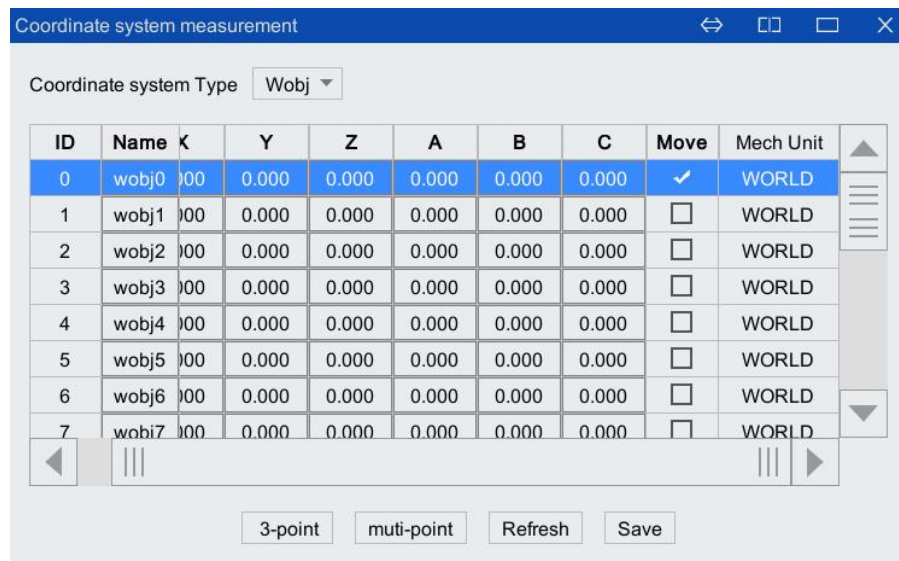

Figure 5-72 "Move Workobject Coordinate System" interface
Step1. If the coordinate system of the moving workobject to be calibrated is wobj1, check the <Move> button in the row where wobj1 is located, and  $\checkmark$  is displayed after checking, as shown in Figure 5-72. Click the mechanical unit box corresponding to the row of wobj1, and a drop-down list will pop up, as shown in Figure 5-72. Optional WORLD or R1. When WORLD is selected, it means that the workobject coordinate system is calibrated relative to the world coordinate system. When R1 is selected, it means to calibrate the workobject coordinate system relative to the base coordinate system of the robot.
Step5. After all calibrations are successful, click the <Calculate> button at the bottom of Figure 5-72 to calculate the error. If it exceeds the error range, the "Calibration failed, please re-measure!" prompt box as shown in Figure 5-76 will pop up. Then you need to re-calibrate until the error is within the allowable range; if the error is within the allowable range, the "Calibration is successful, save it?" prompt dialog box as shown in Figure 5-77 will pop up, click the <Yes> button. The "Save Successful" prompt box as shown in Figure 5-78 pops up to complete the calibration.